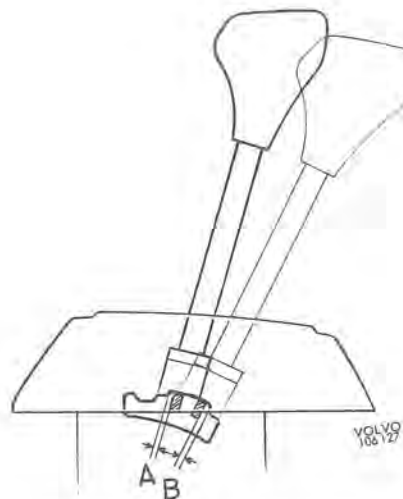

Fig. 4-69. Adjusting selector controls
2. Adjust the length of the shift rod so that there is a small gap (min. 1 mm=0.04", see B, Fig. 4-69) between the selector lever inhibitor and selector gate when the rod is connected to the lever on the